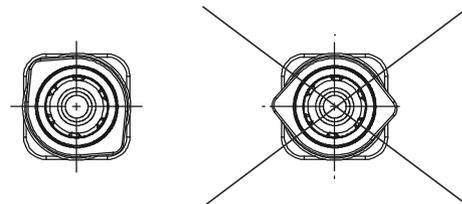

Fig. 18 Fitting the stationary shaft seal part (only SiC/SiC)
4. Press the stationary shaft seal part home. See fig. 18.